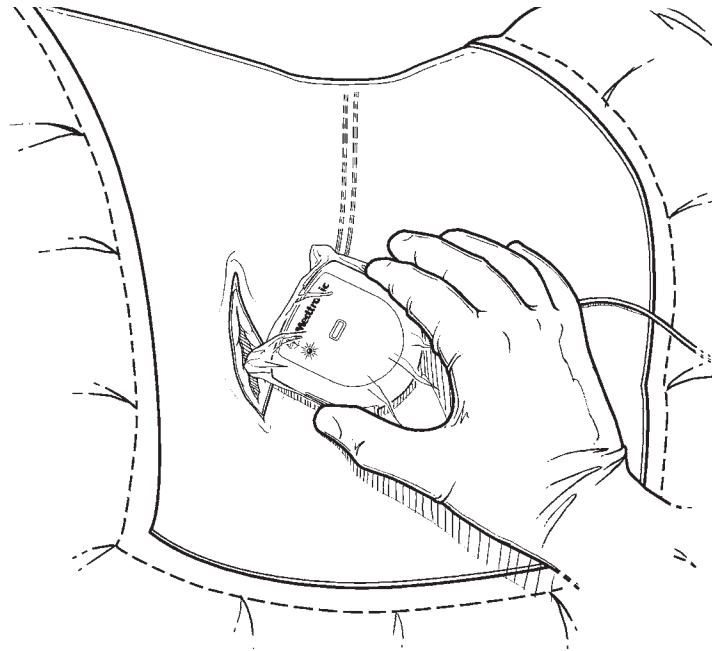

FIGURE 64
- 1 Using the clinician programmer, program the basic stimulation parameters, check the battery status, and check the electrode impedances to rule out a short or open circuit (FIGURE 64).